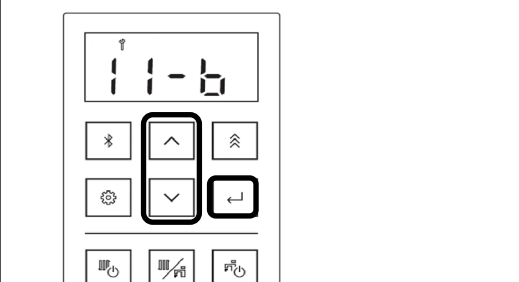

Fig 8. "Up," "Down" and "Select" Buttons
- 3. Press the (Up) or (Down) arrows to change the selection for the setting number (such as 11-R or 11-b). Then, press the "Select" button (Fig 8).